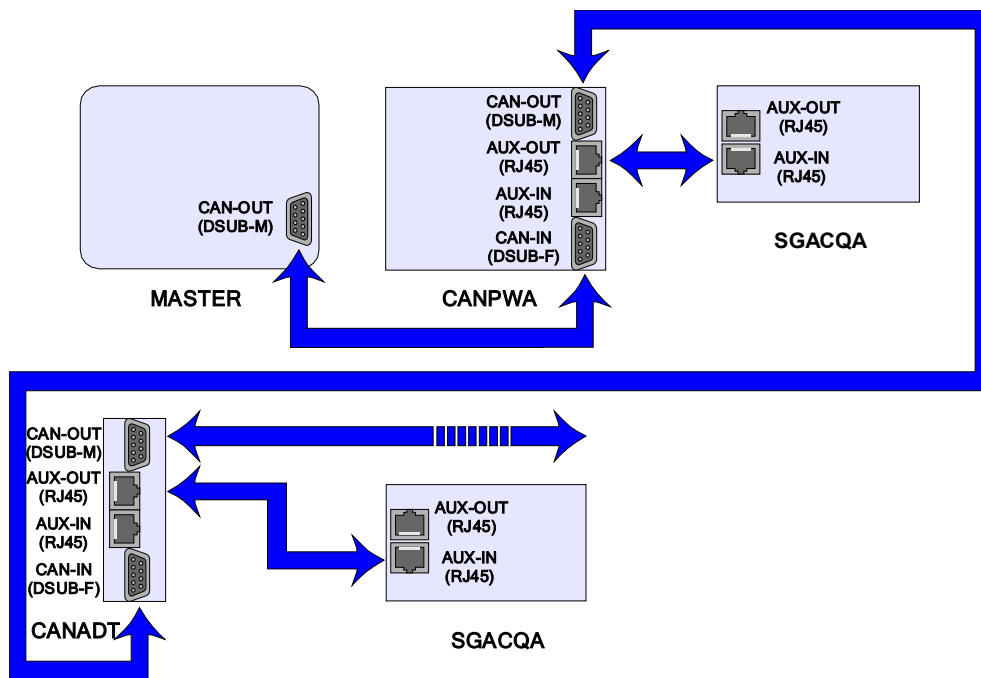

Fig. D.3 Industrial weigher with shunts/stubs
- **multiple heads with PP**, in which a similar configuration to that of the linear weigher is envisaged, but with a new peripheral that powers an acquisition board (Fig. D.3).
The figure D.3 instead shows the application in which shunts or stubs are necessary for accessing the SGACQA modules. The adapter card CANADT (appendix C) is used. As can be seen, the stubs must be **shorter than 0.3m** otherwise there is the risk of the actual network not working.